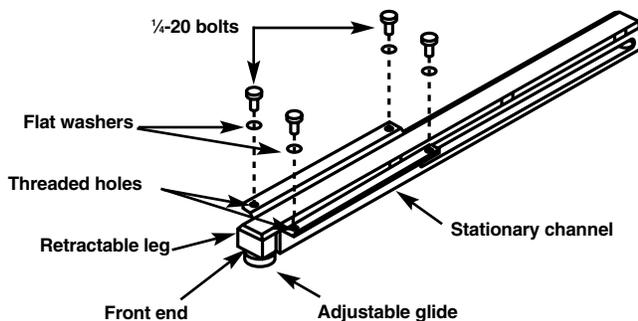
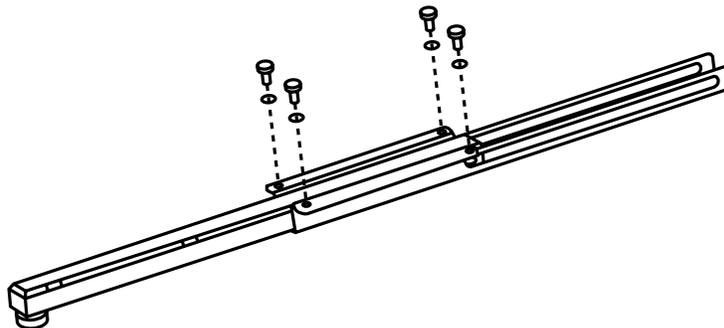

Figure 3-14. Fully retracted leg assembly.
Figure 3-15. Fully extended leg assembly.
1. Figure 3-14 shows the leg assembly when it is fully retracted. Figure 3-15 shows it fully extended. Verify that each leg travels freely from its fully retracted to fully extended position.
3. Align the four threaded holes in the stationary channel with the four holes in the enclosure's bottom (see Figures 3-14 and 3-16). From inside the enclosure, thread one  $\frac{1}{4}$ -20 x  $\frac{3}{4}$ " hex-head bolt with a flat washer into one threaded hole. Repeat this process for all eight threaded holes. Use a  $\frac{7}{16}$ " wrench or socket to tighten each bolt.